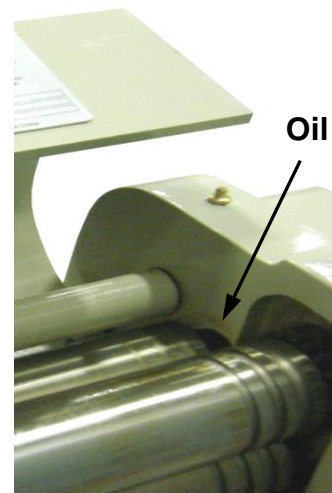

figure 20
6. Lower the idler roll by turning the (2) idler adjustment bolts counterclockwise (**ccw**). This will give you access to apply oil to the bushings. (fig. 20)